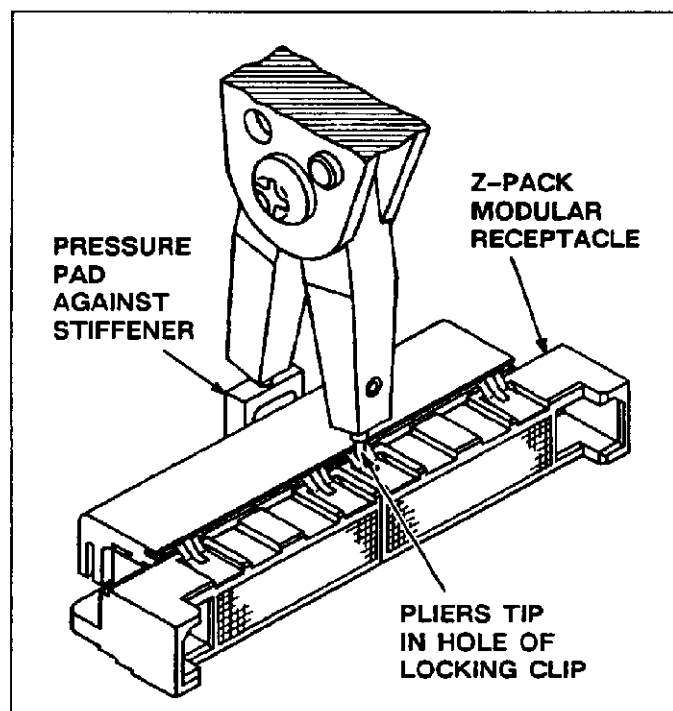

Fig. 2
3. INSERTING LOCKING CLIP (Figure 2)